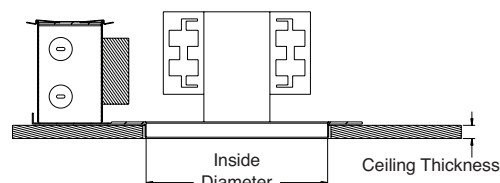

Figure 2
Rough-in section compatibility can be determined by measuring the rough-in section as shown in Figure 2.
- Step 1.** Determine which friction clip to utilize. Two styles of mounting friction clips ("A" & "B", 3 each) have been provided for different retrofit aperture ranges. This is to ensure best fixture retention when installing reflector trim assembly. When utilizing provided mounting friction clips, please refer to Figure 5 for proper friction clip aperture inside diameter range. Aperture inside diameter can be determined by measuring rough-in section as shown in Figure 2 on previous page.